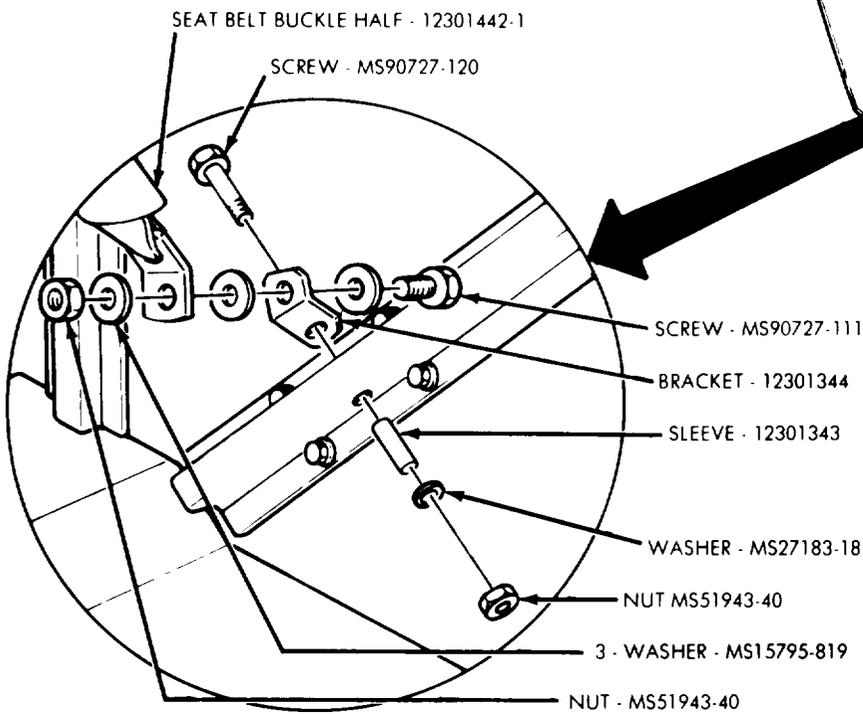

Figure B-9. Fixed Driver's Seat Belt Buckle Half Installation
d. Install 1230343 sleeve in hole on left diagonal cab channel member and position 12301344 bracket to upper side of channel member and secure with MS90727-120 screw, MS27183-18 washer, and MS51943-40 nut as shown in figure B-9. Tighten screw 20-25 lb-ft (27-34 N•m).
e. Position 12301442-1 seat belt buckle half on bracket and secure with MS90727-111 screw, three MS15795-819 washers, and MS51943-40 nut as shown in figure B-9. Tighten nut 20-25 lb-ft (27-34 N•m).